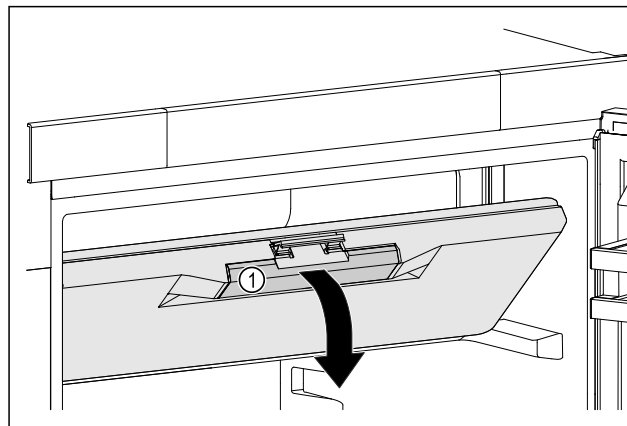

Fig. 27
- ▶ Hold the freezer compartment door by the recessed handle Fig. 27 (1).